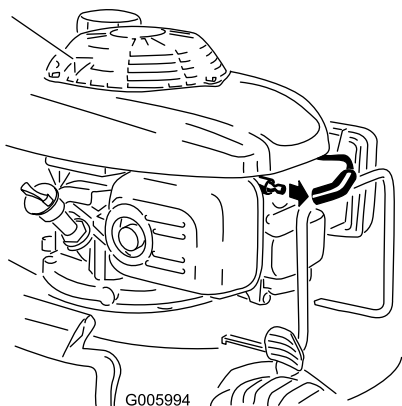

Figure 33
2. Disconnect the spark-plug wire from the spark plug (Figure 33) before performing any maintenance procedure.
2. Disconnect the wire from the spark plug (Figure 33).